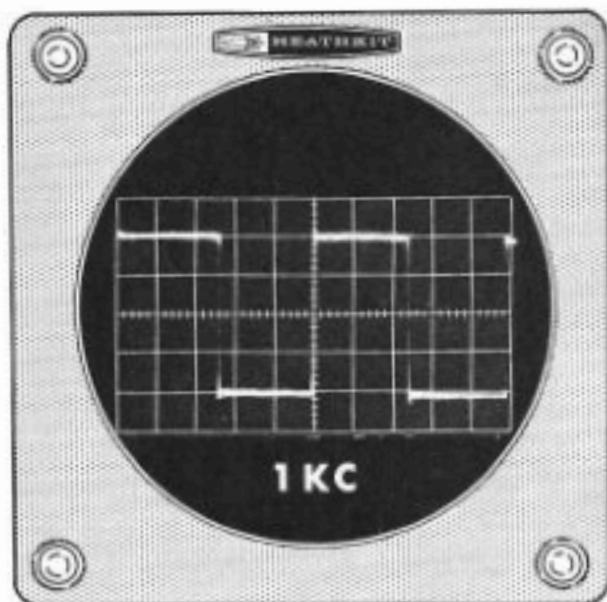

Figure 2-2
- () Adjust the Sweep Calibrate control (on the horizontal circuit board) so two complete waveforms just fill the width of the graticule (10 cm). See Figure 2-2. This adjustment must be made accurately. Do not be concerned that the trace continues past the right side of the graticule.